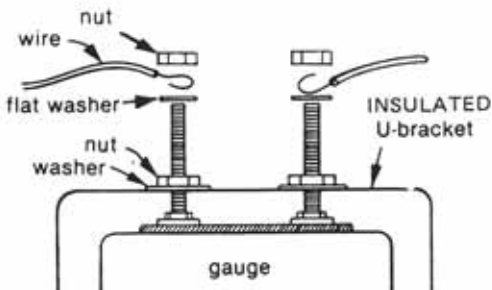

FIGURE 7
1. Add a flat washer and a nut to each post at the back of the gauge as shown in Figure 7.
2. Connect insulated wires (18 gauge or larger recommended) between the washer and the last nut on each post (Figure 7).
4. Connect the wires between the washer and the last nut on each post of the ammeter (Figure 7) making sure to observe the polarity of the connections as shown in Figure 8.